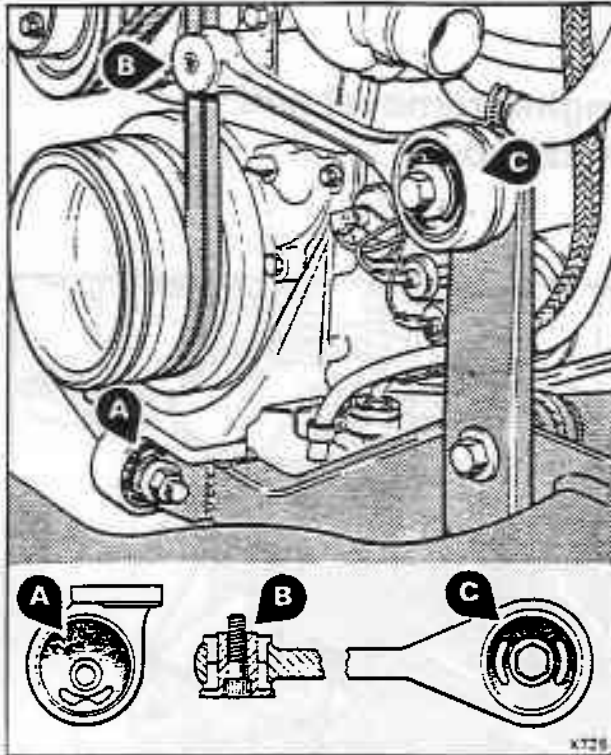
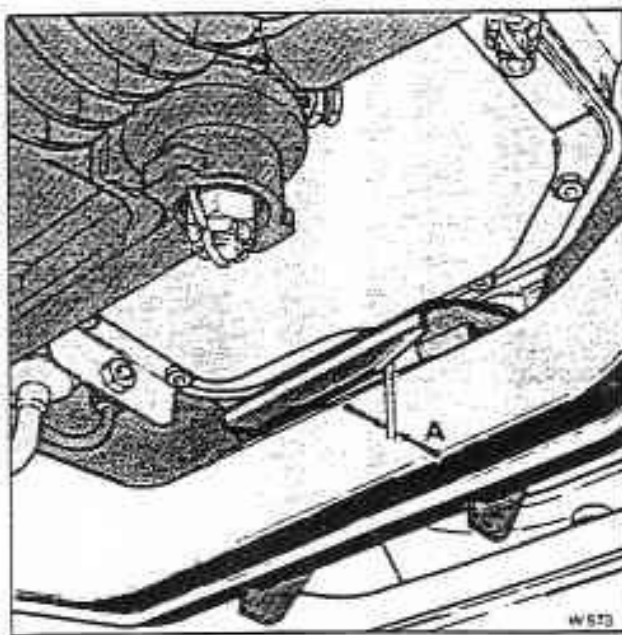

Fig. E12-3 Engine front mount and steady bar
Fig. E12-6 Front engine mount stop plate gap
27. Remove the steady bar (if fitted) from the front of the engine (see fig. E12-3).
39. Disconnect the engine front mounting (see fig E12-3). On Corniche, Mulsanne Turbo, and Continental cars refer to figure E12-6.
2. On Corniche, Mulsanne Turbo, and Continental cars, with the engine front mounting setscrews slack, adjust the position of the engine mounting stop plate so that there is a gap of 1,52 mm (0.060 in) between the bonded rubber strip on the stop plate and crossmember stop bracket (see fig. E12-6). The stop plate has elongated holes to allow adjustment.